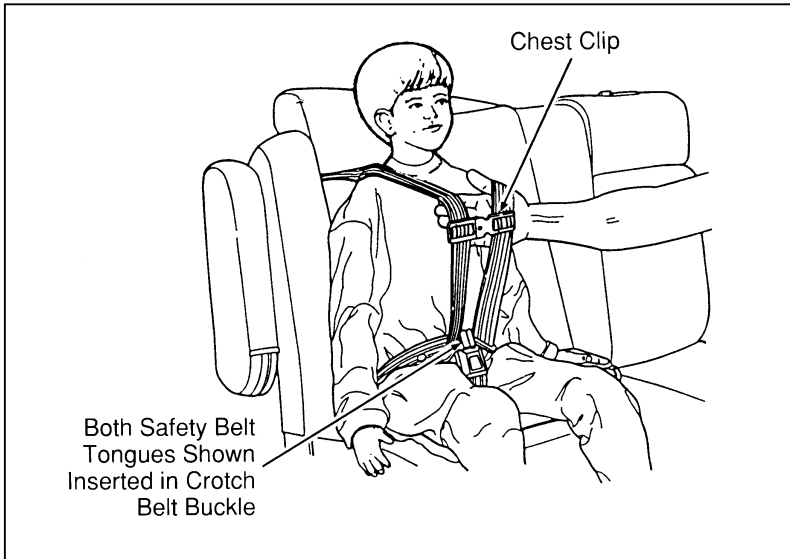

Figure 7: Checking for securely latched buckle and chest clip
8. Pull the shoulder belts out to ensure that the crotch safety belt buckle and chest clip are securely fastened. Refer to Figure 7.